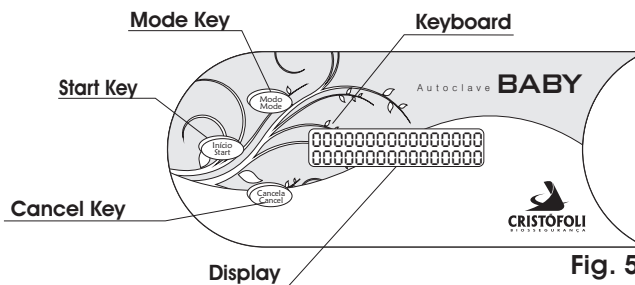

Fig. 5
- 4► **DISPLAY** - It is where all the functions/messages of the autoclave are shown, it has two lines with 16 characters each. It's located in the center of the keyboard (Fig. 5).